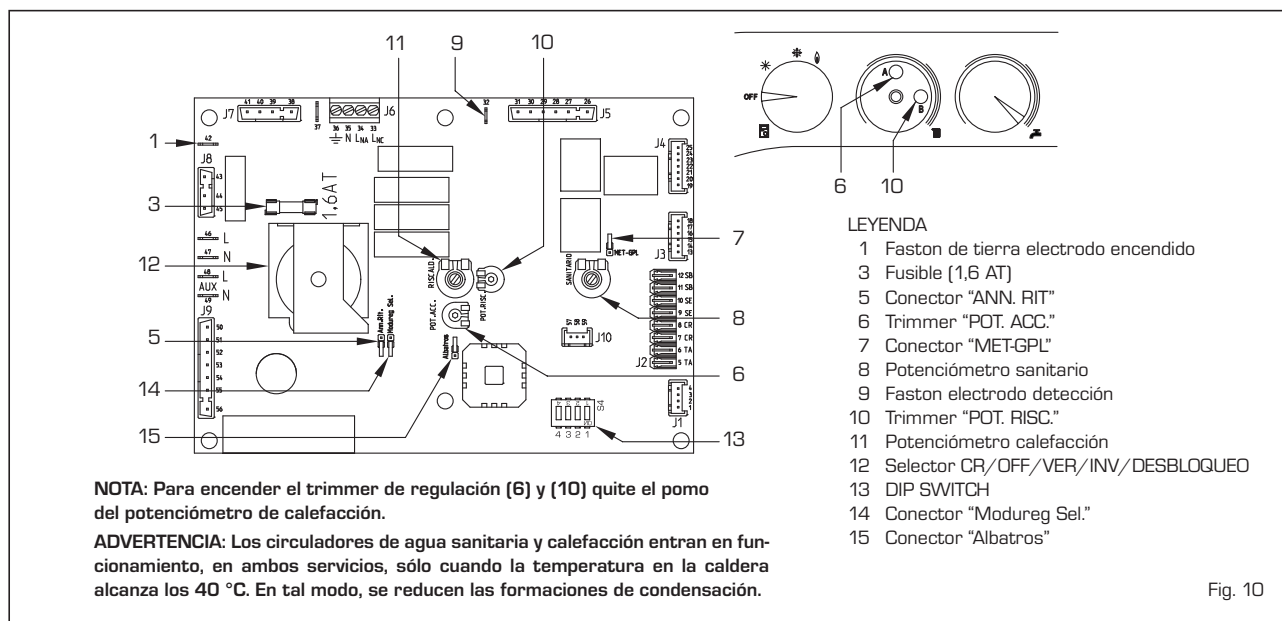

Fig. 10
- **Trimmer "POT. RISC."** (10 fig. 10)
- **Trimmer "POT. ACC."** (6 fig. 10)
- **Conector "MET-GPL"** (7 fig. 10)
- **Conector "ANN. RIT."** (5 fig. 10)
- **DIP SWITCH** (13 fig. 10)
- **Conector "Modureg Sel."** (14 fig. 10)
- Conector "Albatros" (15 fig. 10)